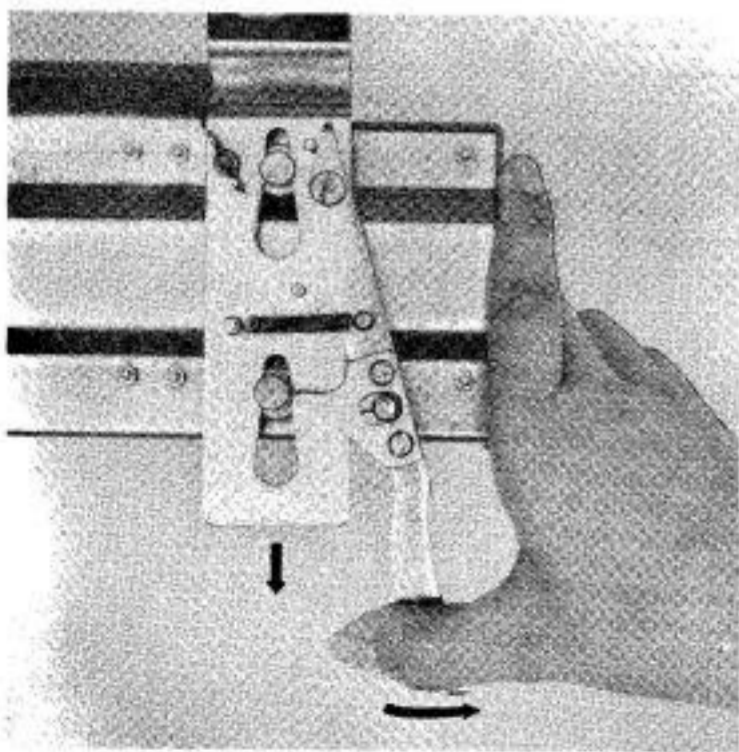
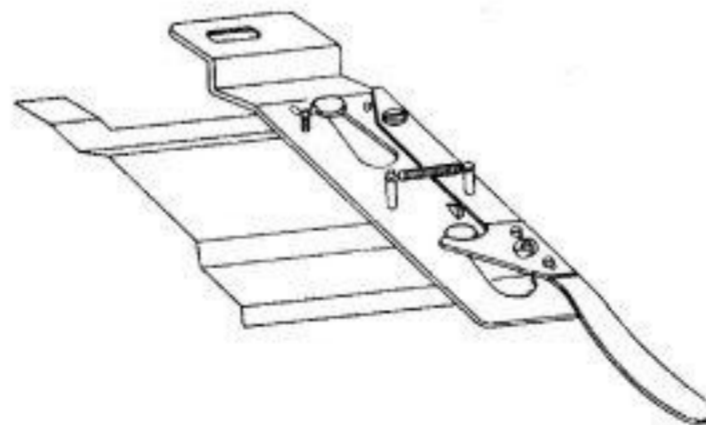

Fig. 7
Fig. 8
3. Fix the ribber mounting brackets into position on the back of the ribber needle bed. The R/H. bracket is shown partly in position in Fig. 7. It will be seen that each bracket has two slots in the shape of a keyhole. Locate the wide section of the keyhole slots over the two studs on the ribber needle bed. Pull the release lever outwards (again see Fig. 7) and this will then allow the bracket to slide downwards so that the studs are now in the narrow end of the keyhole slots. (Fig. 8)